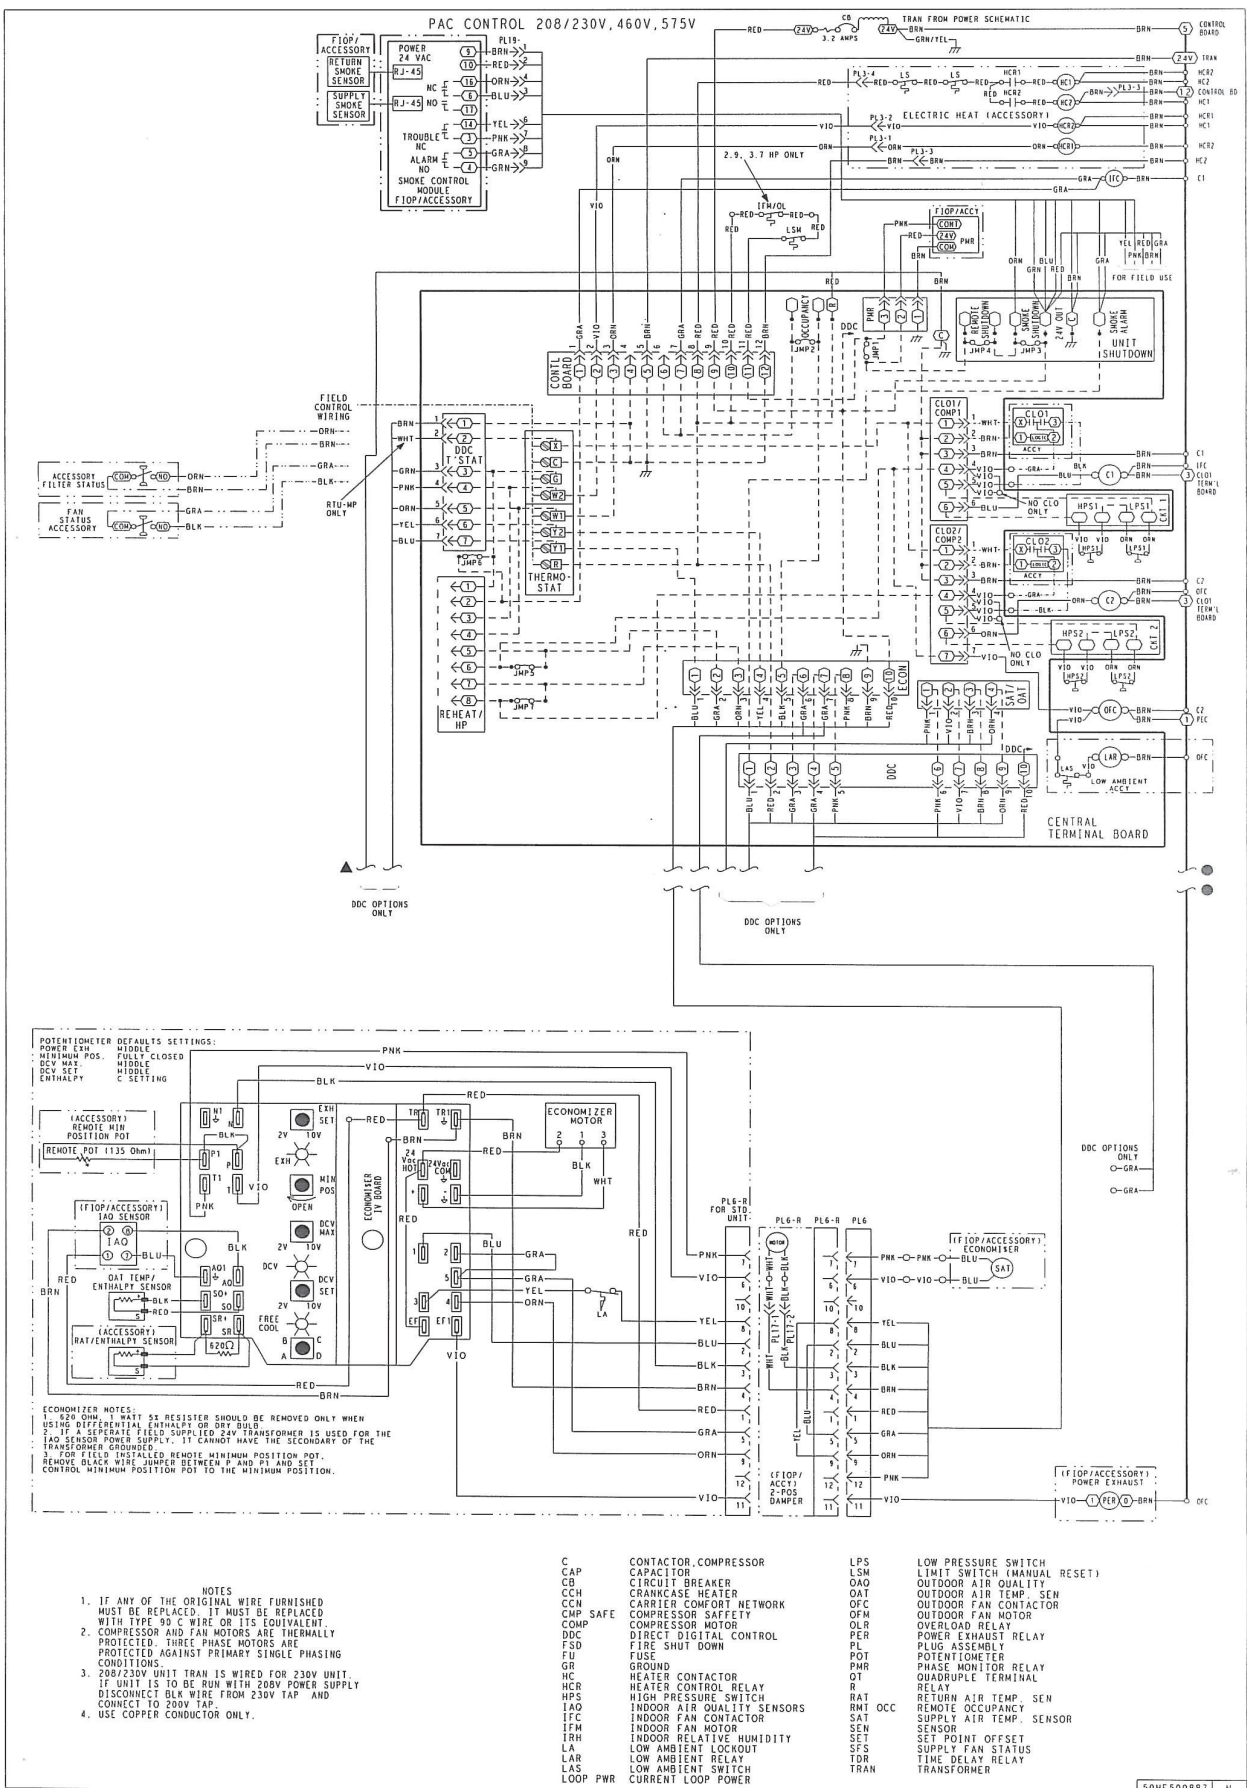

Fig. 2 — Wiring Diagram
6. Route wires for the switch from low voltage section to status switch. Connect the gray wire to the “COM” side of the switch. Connect the black wire to the “NO.” (See Fig. 2.) The other end can be tied into building controls for monitoring.
4. Locate wires (orange and brown). Route wires from low voltage section to switch. Connect brown to “COM” and the orange to “NO.” The other end can be tied into building controls for monitoring. (See Fig. 2.)